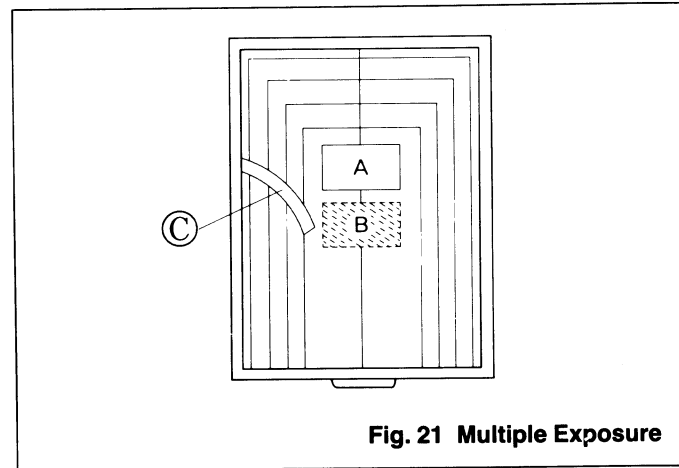

Fig. 21 Multiple Exposure
- ① Put a common copy base sheet on part C of the copy board (Fig 21).